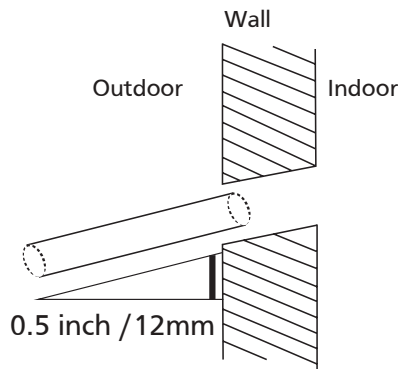

Fig. 6.5
- Using a 2.5" (65-mm) core drill, drill a hole in the wall. Make sure that the hole is drilled at a slight downward angle, so that the outdoor end of the hole is lower than the indoor end by about 0.5" (12mm). This will ensure proper water drainage (See Fig. 6.5). Place the protective wall cuff in the hole. This protects the edges of the hole and will help seal it when you finish the installation process.